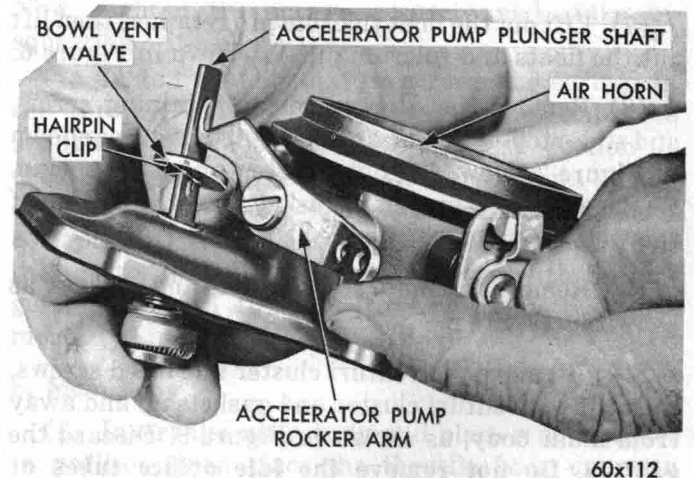
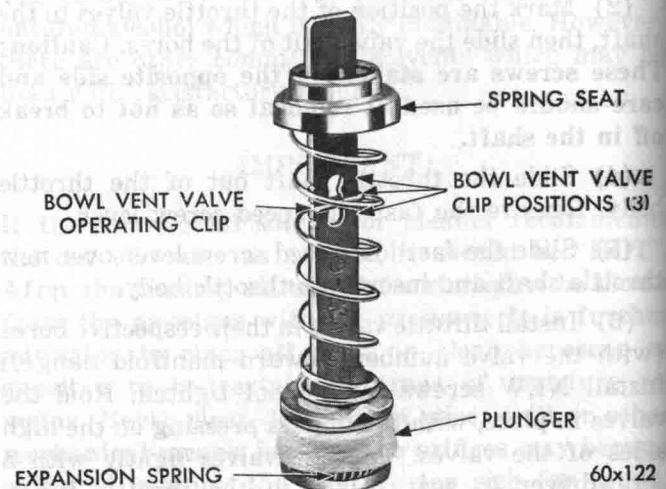

Fig. 5—Removing or Installing Accelerator Pump Plunger
Fig. 15—Accelerator Pump Assembly
(5) Disengage the accelerator pump plunger from the rocker arm by pushing up on the bottom of plunger and sliding plunger shaft off hook, as shown in Figure 5. Slide plunger out of air horn and remove the bowl vent valve, spring seat and spring.
(18) Assemble the pump plunger, spring and spring seat, as shown in Figure 15. Slide plunger shaft through opening in air horn. Install bowl vent valve over plunger shaft, then engage with pump rocker arm (Refer to Fig. 5).